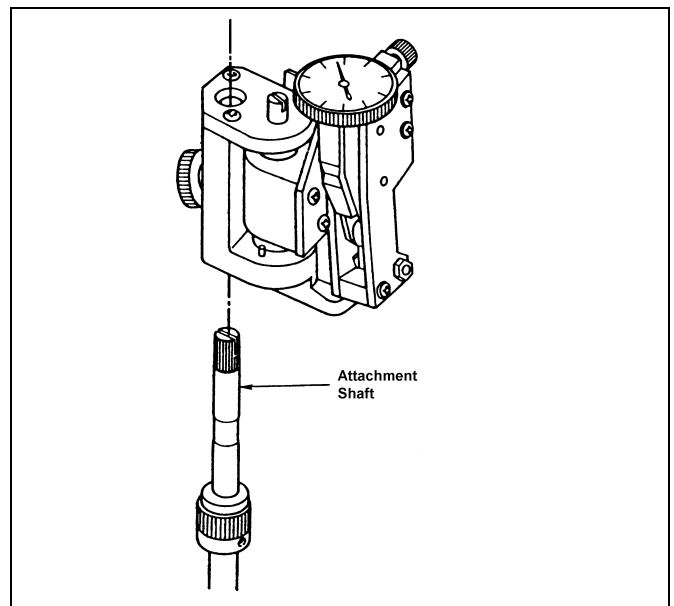

Figure 5 Drum replacement tool
4. Confirm that the lever of Center Drum Replacement Tool is locked and then install it to attachment shaft as shown in figure 5.